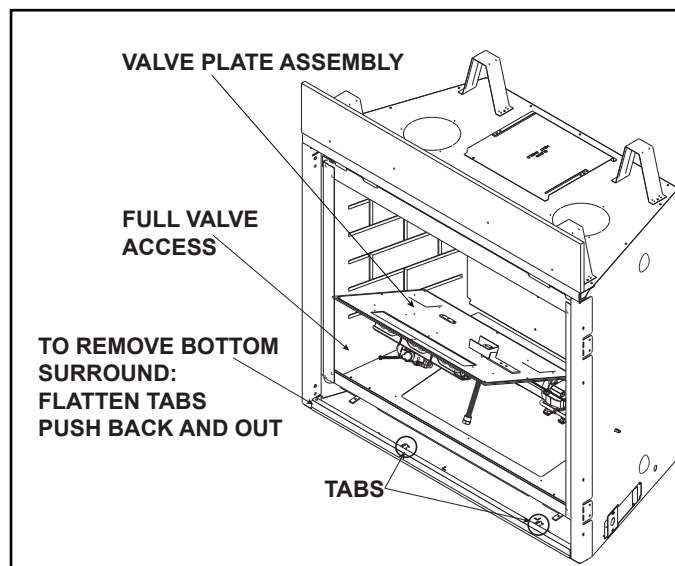

Figure 9.4 Gas Valve Access (Generic Fireplace Shown)
- The bottom surround for this appliance may be removed to gain access to the control cavity for ease of access during the gas connection process. See Figure 9.1 and Figure 9.4.
- Remove decorative barrier front, glass, logs, base pan assembly, burner assembly and valve plate assembly. See Figure 9.4.